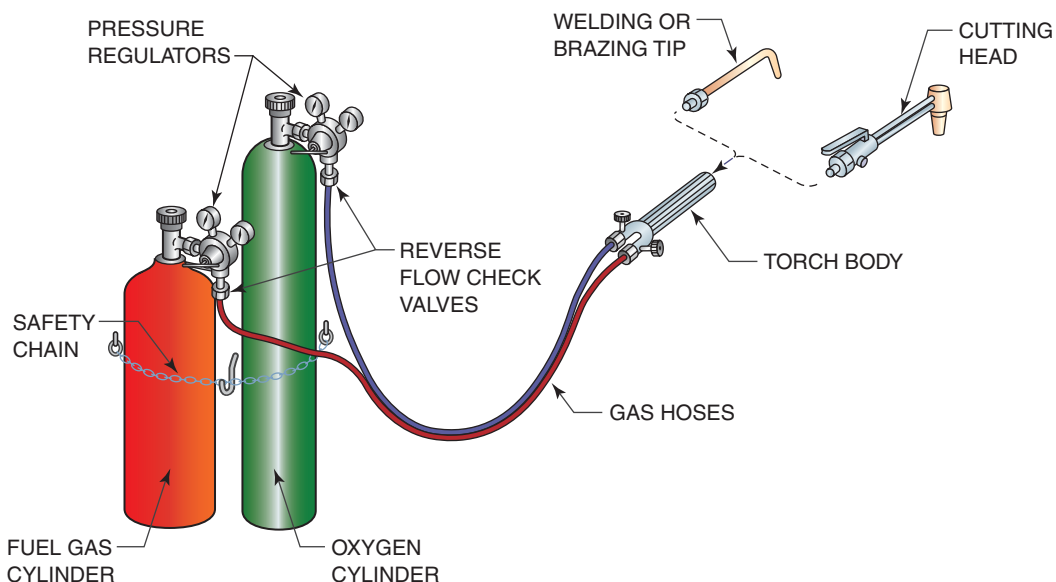

Figure 1.7 Oxyfuel welding and cutting equipment
Acetylene is the most commonly used fuel gas. It is widely used for **oxyfuel gas welding (OFW)**, **oxyfuel gas cutting (OFC)**, and **torch brazing (TB)**. The **oxyfuel (OF) gas** processes are the most versatile of the welding processes. The equipment required is comparatively inexpensive, and the cost of operation is low, Figure 1.7.